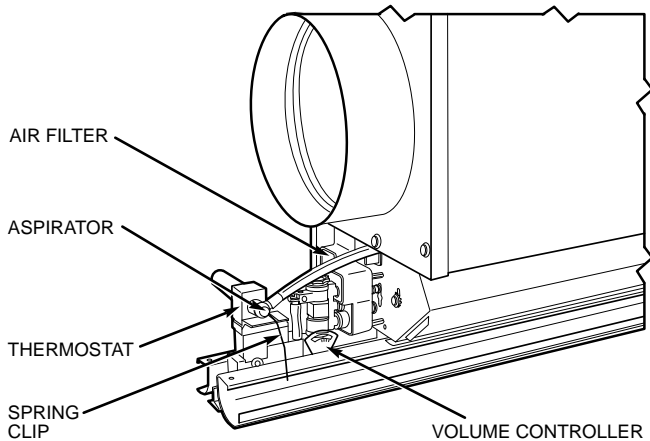

Fig. 30 — 37HS4 VAV Control Installation
12. Install the thermostat on the center diffuser, then snap spring clip over thermostat and onto the side diffusers to hold thermostat in place. See Fig. 30. Make sure that thermostat lever will rotate.
13. Remove cap from the aspirator supply port on the unit control block. Connect the clear, 5 $\frac{3}{4}$ -in. long aspirator supply tube to the control block connection. Figure 30 shows the completed installation.